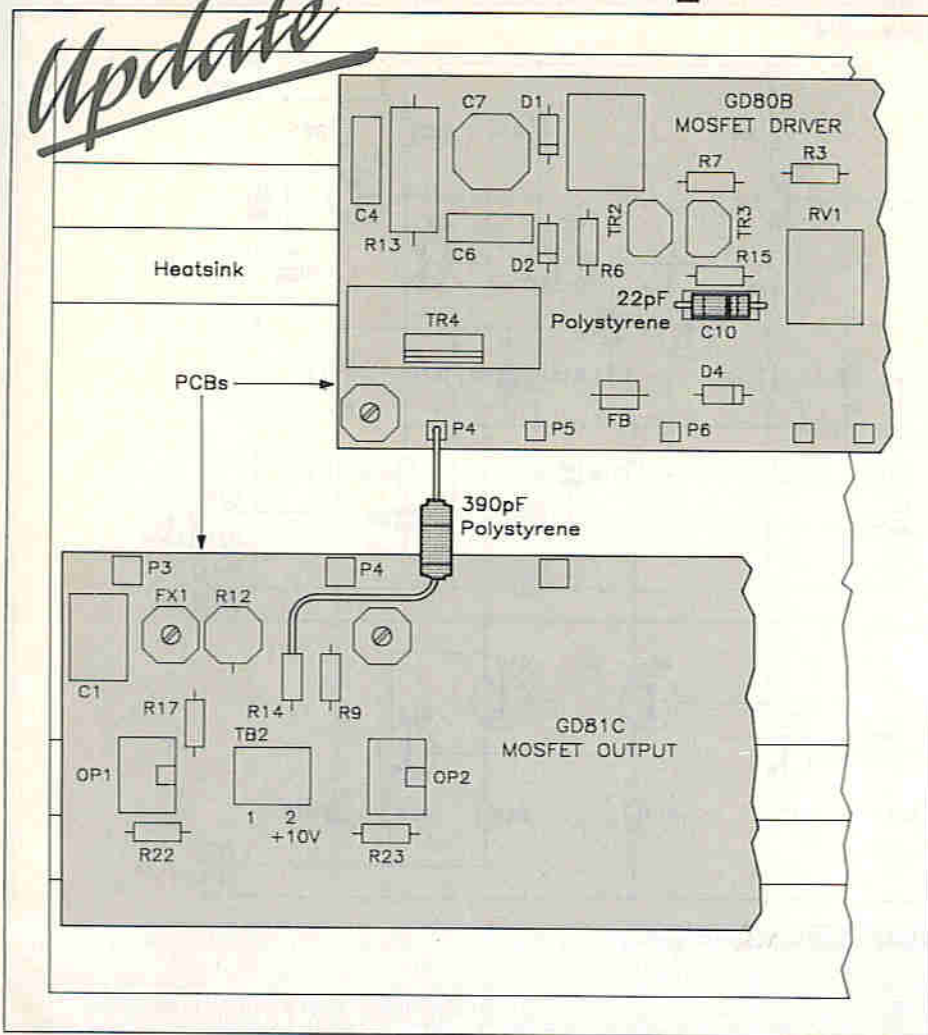

Figure 1. Replacing C10 and adding the 390pF capacitor.
2. On the Driver Module (GD80B) replace C10 (100pF polystyrene) with a 22pF polystyrene capacitor (BX24B) as shown in Figure 1.
3. Fit a 390pF 1% polystyrene capacitor (BX52G) between the Driver Module (GD80B) pin 4 and the junction of W/W resistor R12 and R14 on the Output Module (GDB1C) as shown in Figure 1. The drawing assumes that both Driver and Output Modules have been installed onto the heatsink as shown in the project instructions supplied with the kit.